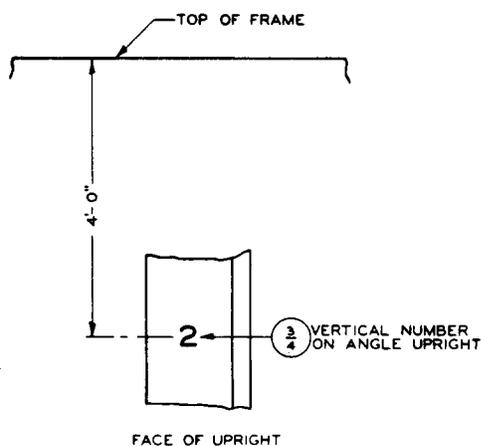

Fig. 22 - Single-sided Combined
2.10 On each angle upright of the frame, stamp the applicable vertical number as shown in Fig. 22.